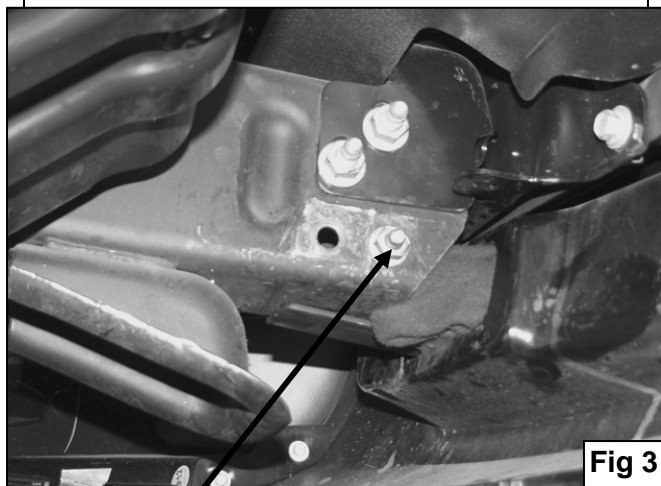

Fig 3
6. **On the driver side** you will be using the front tow hook hole that traverses the frame from side to side to attach Mounting Bracket to frame rail. Insert (1) Tube Spacers through the front of frame rail and align it with hole that traverses the frame rail (**Figure 2**). Secure the assembly with the included (1) 12mm x 140mm Hex Head Bolt, (1) 12mm Lock Washer, (1) 12mm Hex Nut, and (2) 12mm Flat Washers (**Figure 3**).